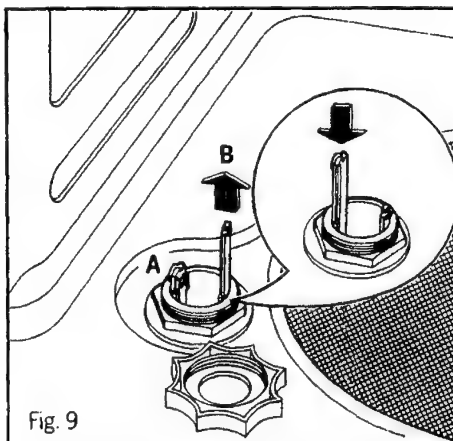

Fig. 9
To adjust the softener: (See figure 9)
- b) pull out the plastic bars (A) white and (B) red (Figure 9).